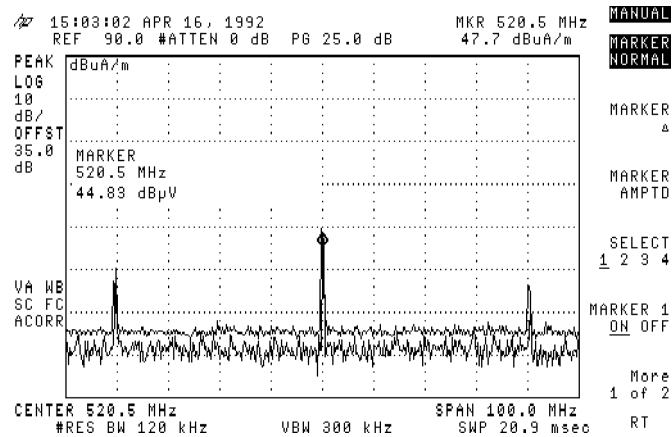

Figure 3-7. Reading the Probe's Output in $\text{dB}\mu\text{A}/\text{m}$
31. Position the marker on the desired signal. Read the field strength value in $\text{dB}\mu\text{A}/\text{m}$ in the upper-right corner of the CRT. See Figure 3-7. Note the active function area displays only $\text{dB}\mu\text{V}$.